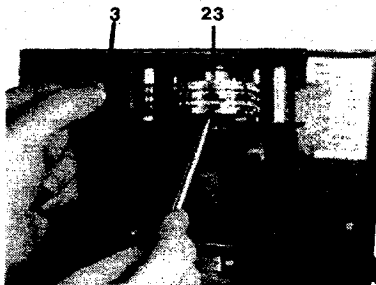
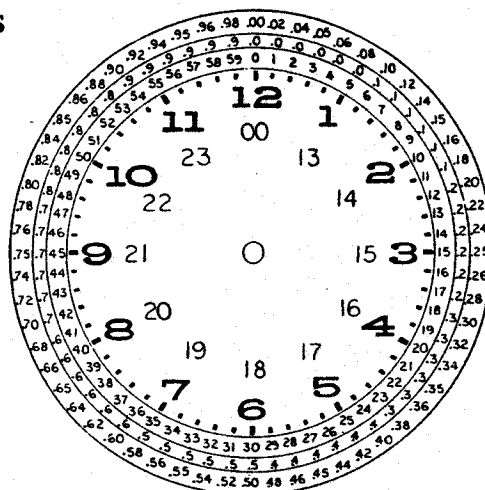

FIGURE 6
FIGURE 7
5. Use a pointed object to rotate each wheel until the correct time and day are vertically aligned at the center position, as shown (Fig. 6, 23). If you are using tenths (models with 4th digit of 2 or 5), go to the section "Setting Decimal Wheel with Tenths". If you are using hundredths or 0-23 hours, refer to the Dial of Decimal Equivalents in Figure 7 to determine the correct setting.
The dial in Figure 7 shows the tenths and hundredths setting for each minute. The small inner circle represents minutes, the middle circle represents tenths, and the outer circle represents hundredths. For example: